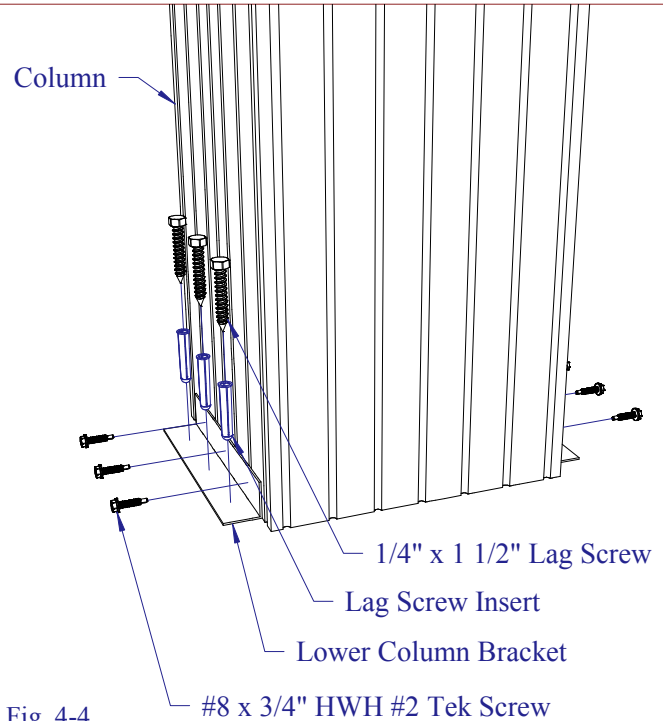

Fig. 4-4
- Anchor the bottom of the column with two lower column brackets, (6) lag screw inserts, (6) 1/4" x 1 1/2" lag screws into the surface, and (6) #8 x 3/4" HWH #2 Tek screws into the column (see Fig. 4-4).